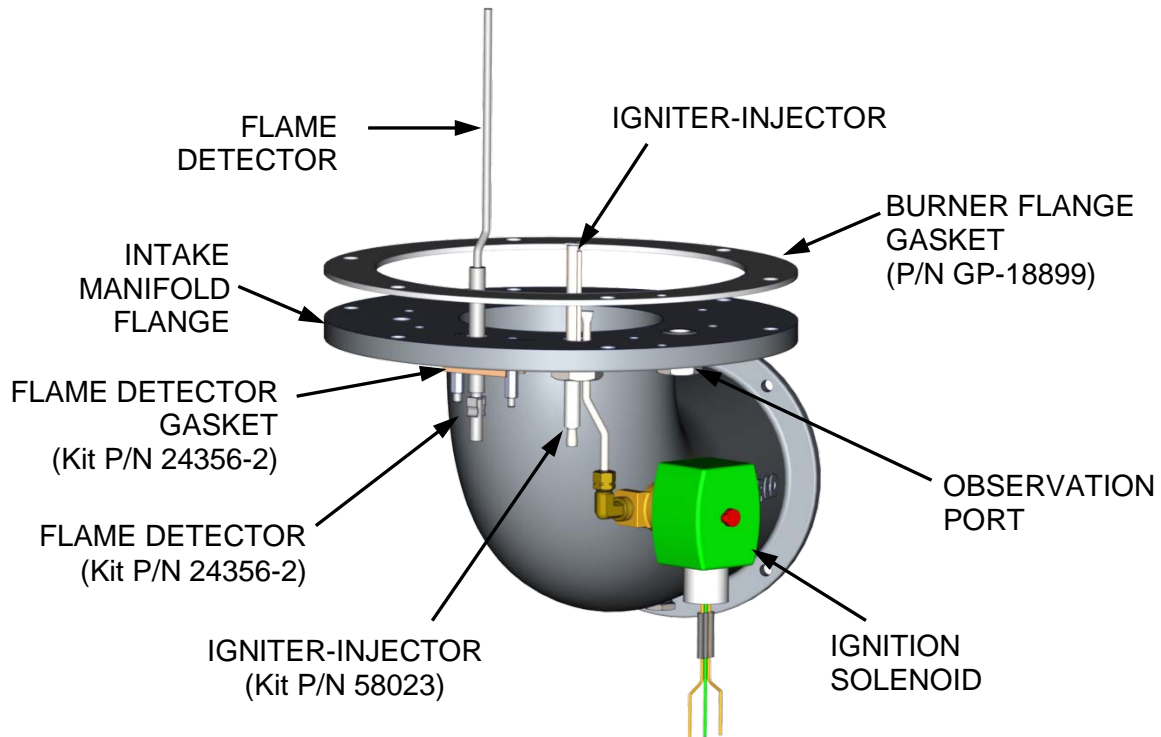

Figure 6-1. Blower-Side Intake Manifold with Igniter-Injector & Flame Detector
The igniter-injector is located on the flange of the blower-side intake manifold, at the bottom of the unit's heat exchanger. The igniter-injector (Kit P/N 58023) is the same for Natural Gas and Propane units. Figure 6-1 shows the blower-side intake manifold (removed from the heater) showing the location of the igniter-injector, flame detector and gasket (Kit P/N 24356-2) and related components.
4. Refer to Figure 6-1. Disconnect the compression nut securing the gas injector tube of the igniter-injector to the elbow of the ignition assembly. Disconnect the ignition assembly from the igniter-injector.
Flame detector (Kit P/N 24356-2) is used on ALL Innovation Water Heater Models. The flame detector is also located on the flange of the blower-side intake manifold as shown in Figures 6-1 and 6-2. The flame detector may be hot. Allow the unit to cool sufficiently before removing the flame detector.
4. Remove the two (2) hex standoffs securing the flame detector to the intake manifold (Figures 6-1 and 6-2). The flame detector is secured to the burner intake manifold with one (1) #10-32 and one (1) #8-32 hex standoff.
6. Remove the two (2) hex standoffs securing the flame detector to the intake manifold (see Figures 6-1 and 6-2).
8. Disconnect the cable from the igniter-injector, loosen the compression nut and elbow from the gas injector tube (Figure 6-1), and remove the entire ignition assembly (nut/elbow, solenoid valve, hose nipple, and gas flex hose) from the manifold flange.